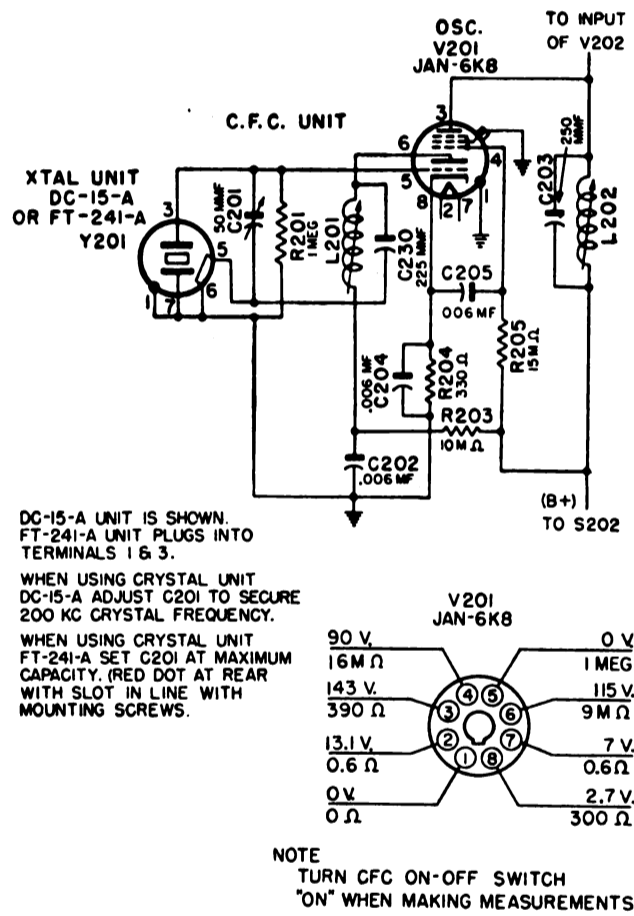

Figure 24. 200-kc oscillator stage schematic,
a. STAGE DATA. (1) 200-kc oscillator stage, shown in figure 24.
(2) Voltage and resistance values for socket terminals of Tube JAN-6K8 (V201) to ground, shown on stage schematic.
(3) Parts data for 200-kc oscillator stage, table XIX.
b. TROUBLE LOCATION. (1) *Tube check.* Remove the tube from socket. Test with the tube checker and replace with a new tube if necessary. In replacing tube see that it is seated firmly in its socket.
(fig. 24)